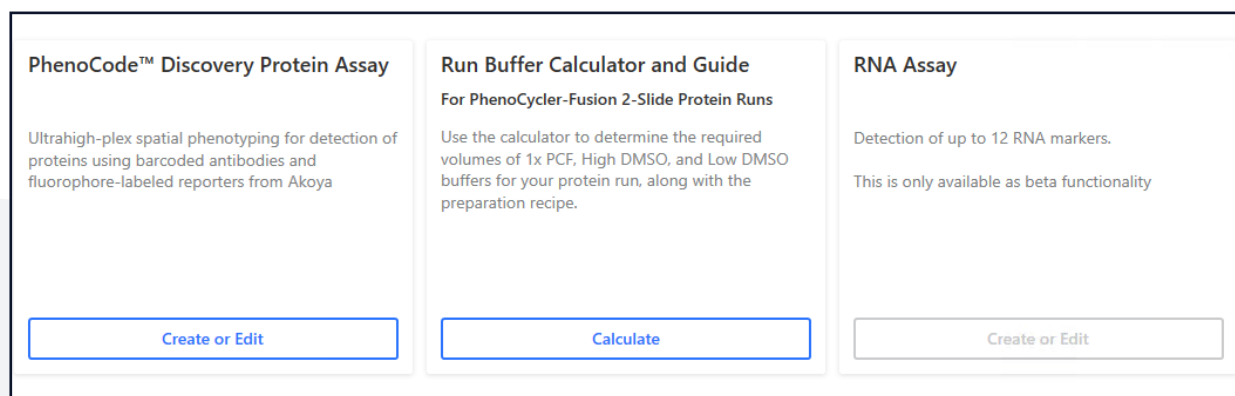

Figure 6.1. Home screen of PhenoCycler Experiment Designer.
The PhenoCycler-Fusion 2.0 Run buffer calculator is found on the Home screen of the PhenoCycler Experiment Designer software (see Figure 6.1) and is designed to assist in estimating the volumes of 1X PhenoCycler-Fusion buffer, High DMSO, and Low DMSO buffers needed for a multi-cycle protein experiment on the PhenoCycler-Fusion 2.0 system. The calculator provides the volumes for each component needed in the corresponding sidecar bottle during the experimental run.
2. Return to the home screen. (See Figure 6.1.)